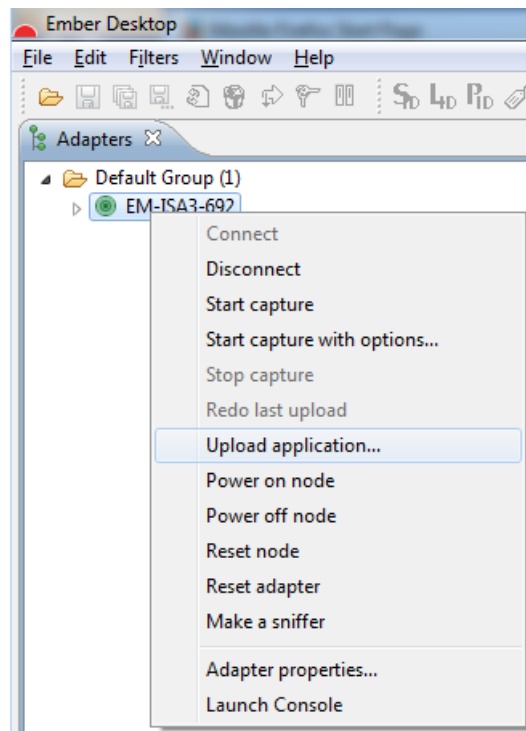

Figure 6. Upload Application Selection with Ember Desktop
2. Right-click the connected adapter from the Adapters view and select *Upload Application* from the pop-up menu, as shown in Figure 6.